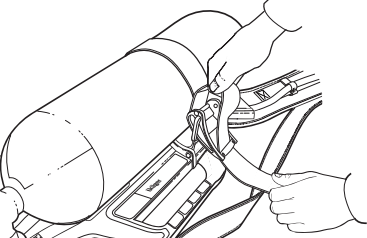

Fig. 35 Tightening the cylinder strap
9. Take up the slack in the cylinder strap (Fig. 35).